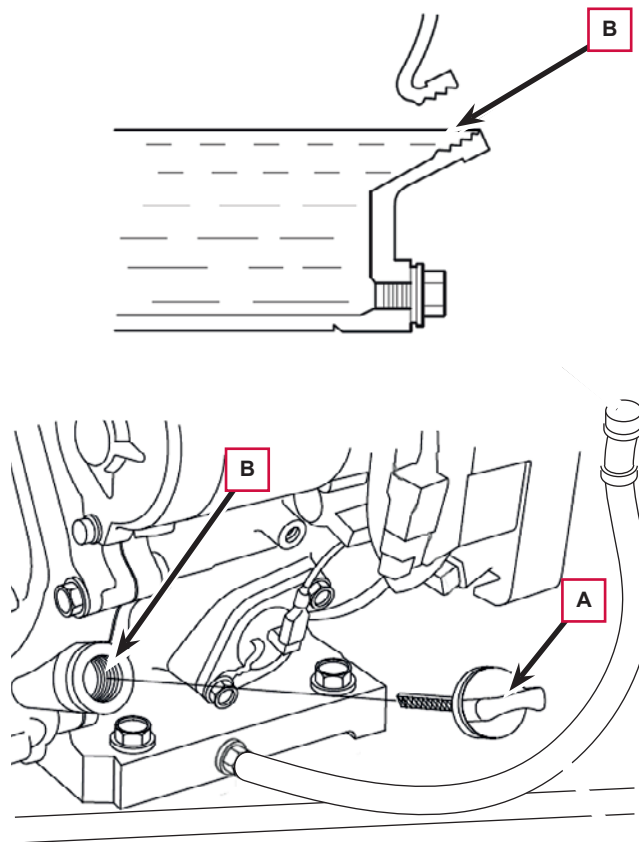

Figure 6
5. Remove the cap (A, Figure 6).
6. Check the oil level. If it is below the upper limit (E), top up with the recommended oil until you reach the upper limit.
7. Reinstall the filler cap (A) safely.